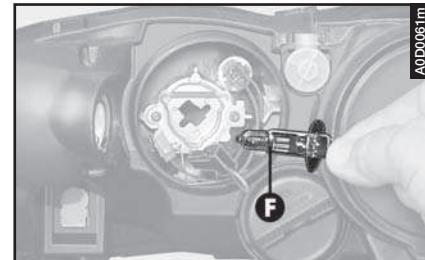

fig. 31
- Remove the bulb (**F**- **fig. 31**).